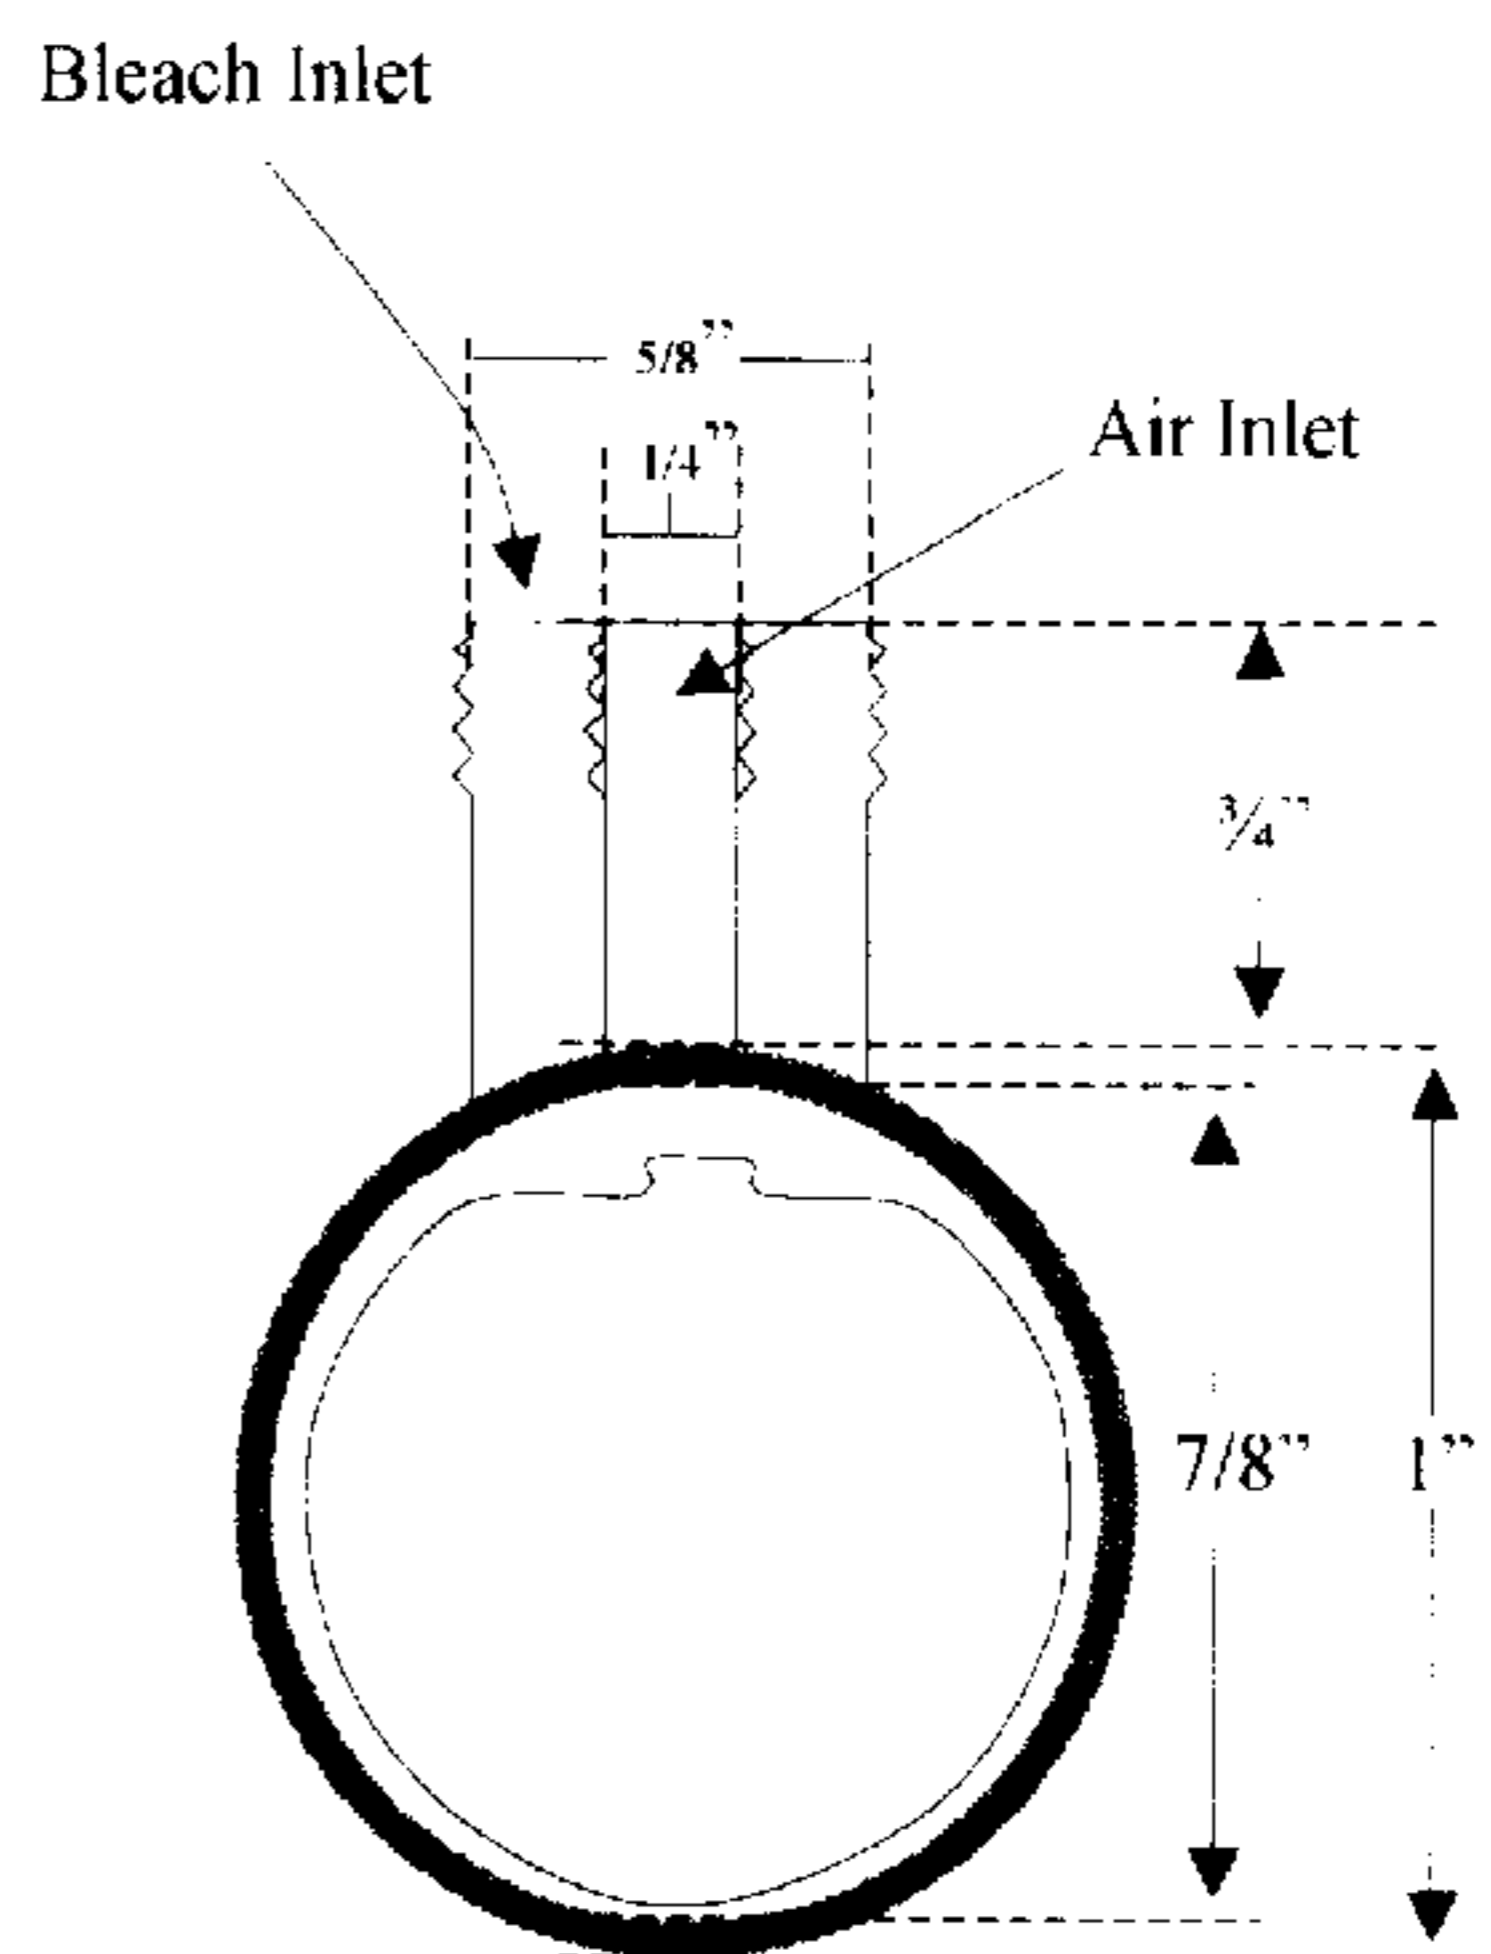

FIG. 6: Cross Sectional view as seen from barbed connection end
6. FIG. 6: Cross Section View at Barb Connection End